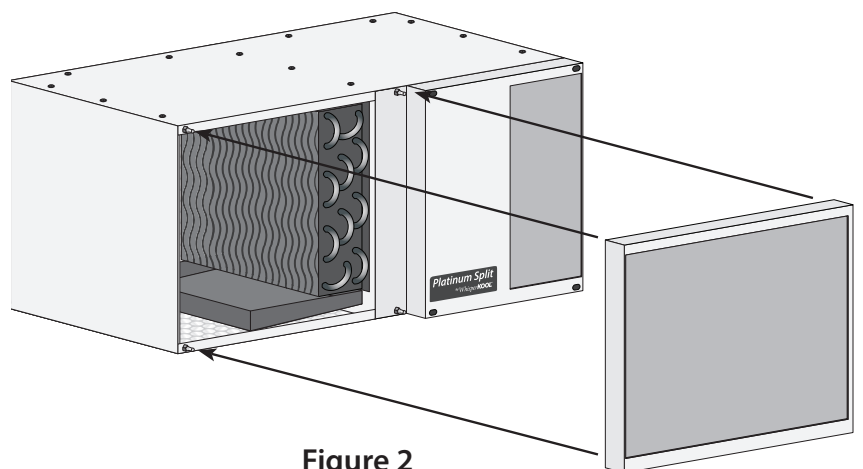

Figure 2
15. Reinstall the access panel removed in Step 1 on page 10 by pushing the four corners into place. (See **Figure 2.**)